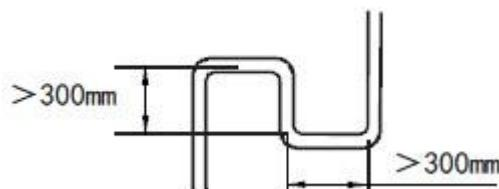

Fig.4-2
3. When the main unit is over 20m from the above places, it is recommended to set a return oil bending every 10m of the air pipe in the main pipe, the return oil bending specification is as Fig. 4-2.
Pipe name	Code (As per the Fig. 4-2)
e.x.1: Refer to Fig.4-2 , the capacity of downstream units to L2 is  $71 \times 4 = 284$ , i.e. the gas pipe for L2 is Φ 22.2, liquid pipe is Φ 9.5.